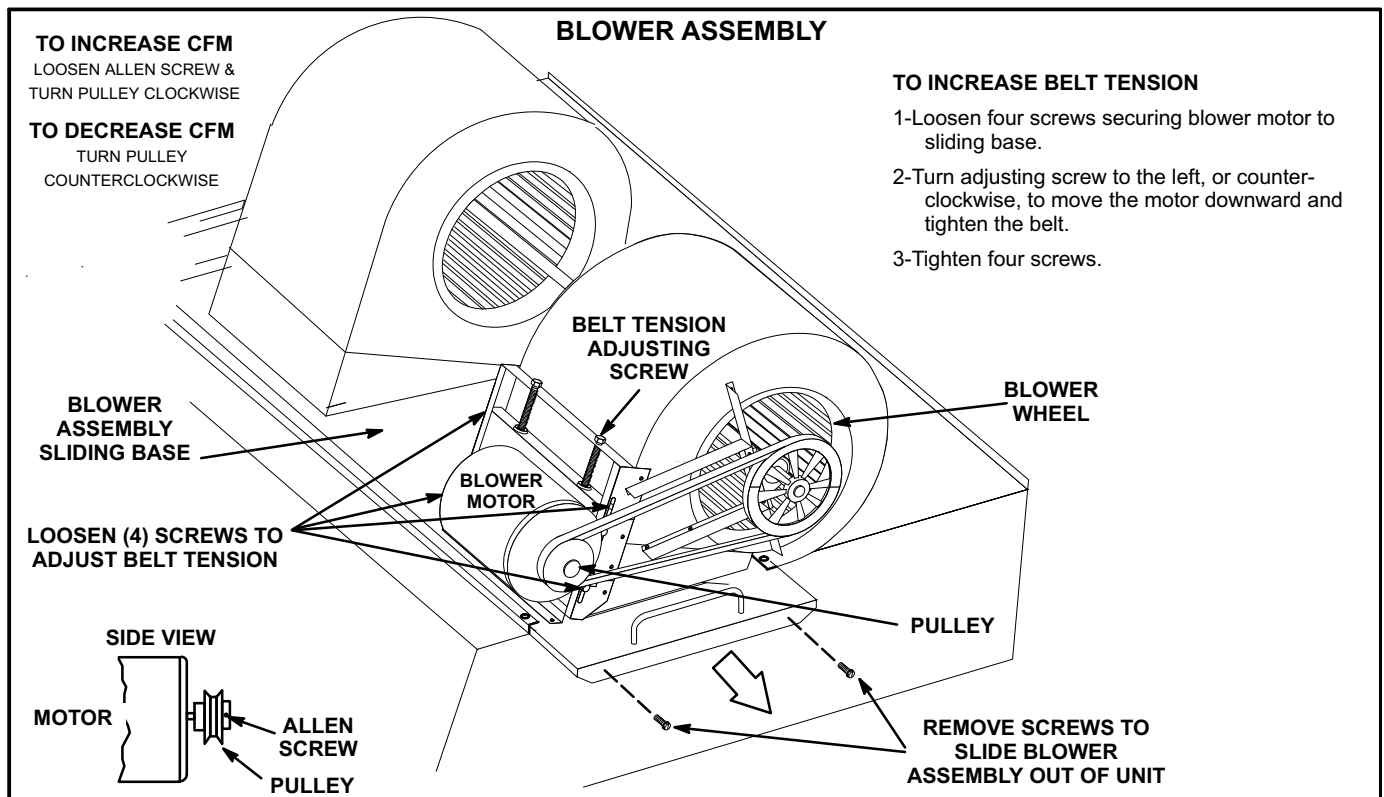

FIGURE 8
The blower assembly is secured to a sliding base which allows the entire assembly to be pulled out of the unit. See figure 8.
- 4- The blower RPM can be adjusted at the motor pulley. Loosen Allen screw and turn adjustable pulley clockwise to increase RPM. Turn counterclockwise to decrease RPM. See figure 8. Tighten Allen screw after adjusting. Do not exceed minimum and maximum number of pulley turns as shown in table 3.
- 1- Loosen four bolts securing motor base to mounting frame. See figure 8.